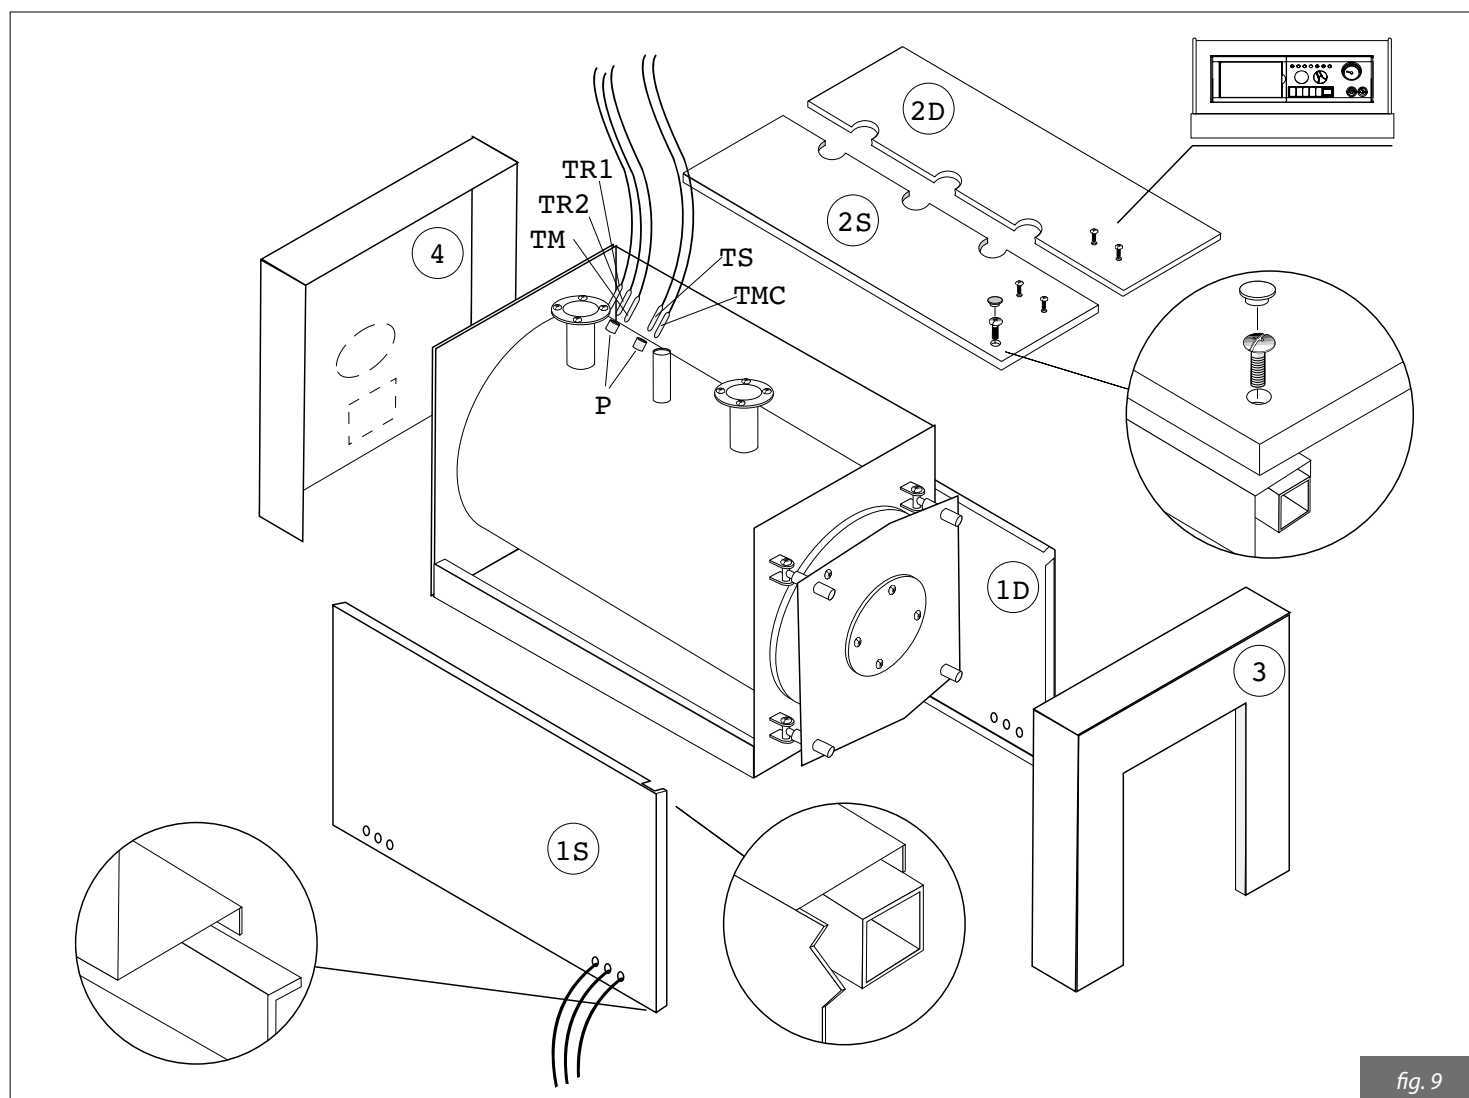

fig. 9
4.1. Boiler housing panels for TAURUS DUAL and TAURUS DUAL HR 70÷400 (fig. 9)
- Wrap the glass wool around the boiler body, ensuring that the bulb-carrying holders (P) located on the right-hand side remain visible.